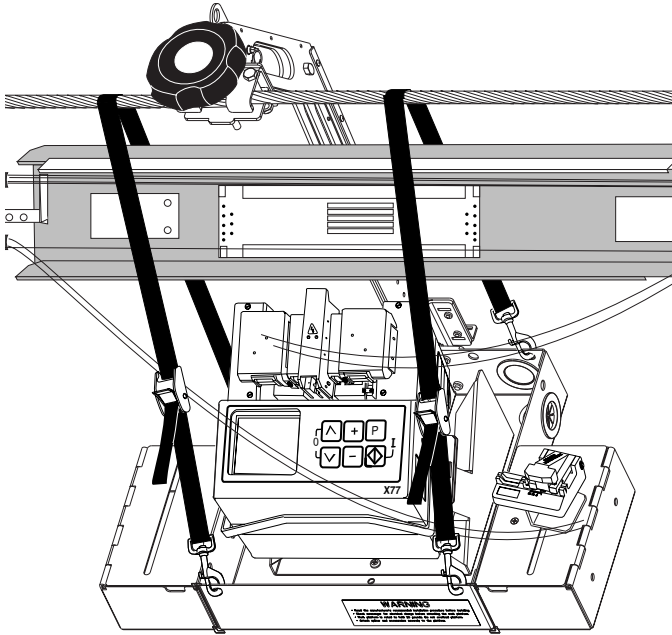

Figure 26
- c) Place the safety straps over the messenger and attach them to the ASP. Shorten the length of the straps by using the buckles (Figure 26).